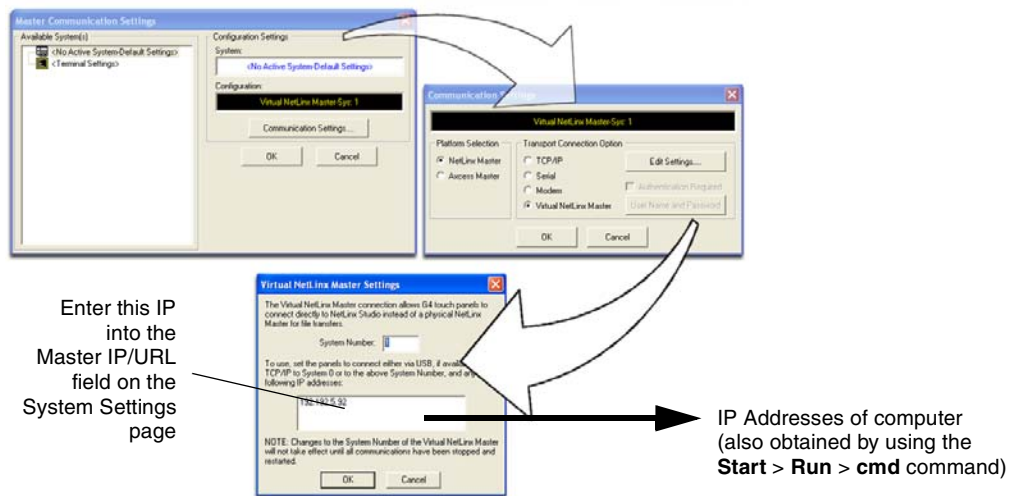

FIG. 69 Assigning Communication Settings and TCP/IP Settings for a Virtual Master
3. Select **Settings > Master Communication Settings**, from the Main menu to open the Master Communication Settings dialog (FIG. 69).
7. Click the **Edit Settings** button (*on the Communications Settings dialog*) to open the Virtual NetLinx Master Settings dialog (FIG. 69).